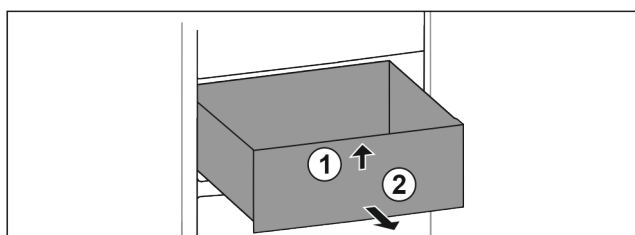

Fig. 61
- ▶ Lift up drawer at the front. Fig. 61 (1)
- ▶ Remove drawer to the front. Fig. 61 (2)